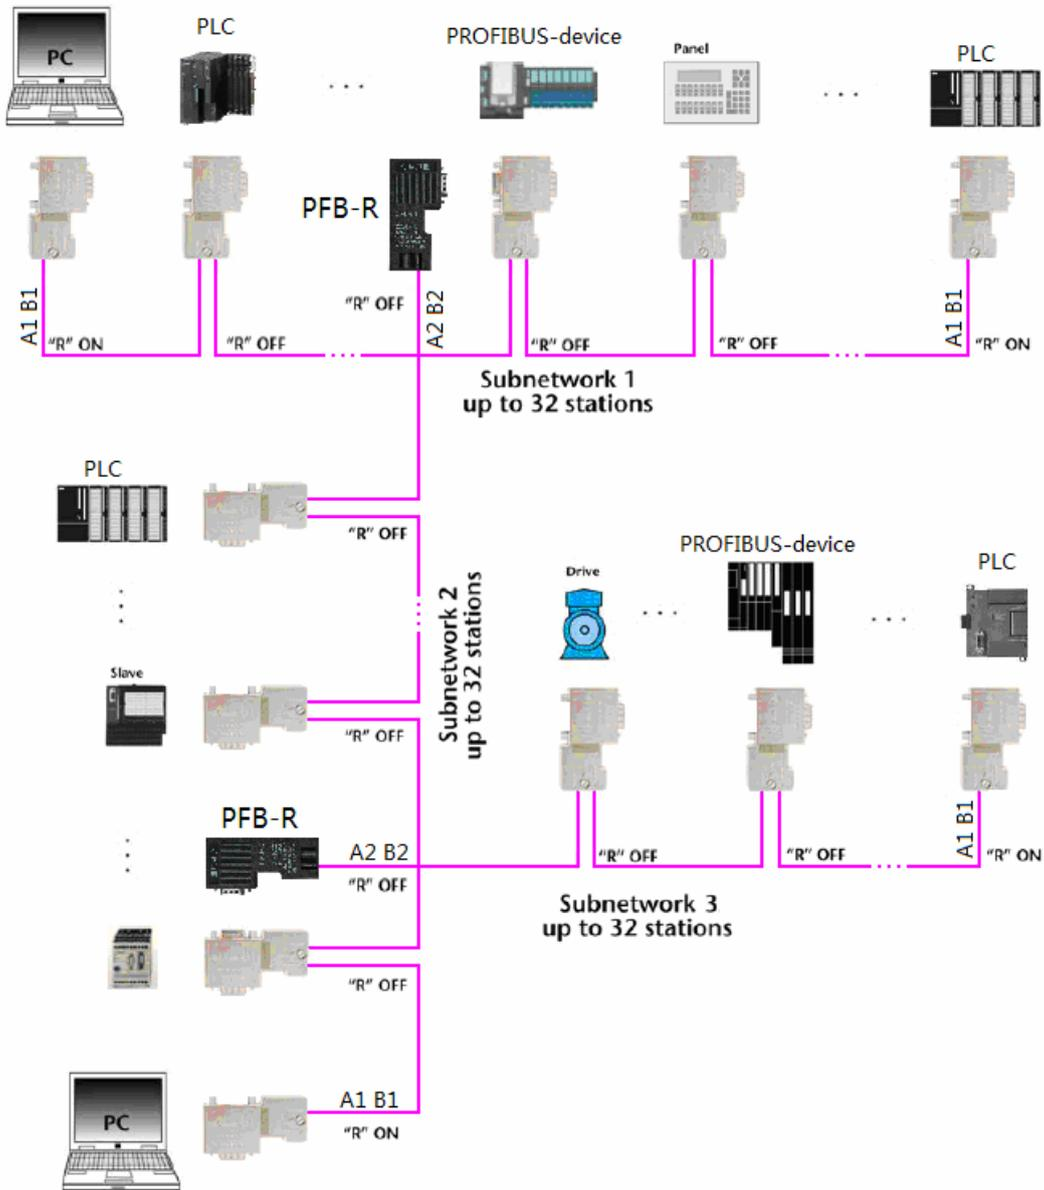

Fig. 6-2 Tree network formed by mini PROFIBUS repeater PFB-R
2. Use Mini PROFIBUS Repeater, PFB-R, to achieve bus branching, and tree network topology. As shown in Fig. 6-2, the bus connector plug with programming port is integrated at the junction. The use only needs to connect PFB-R to the bus connector plug. Attention, the switch of the terminal resistor has to be moved to "OFF".